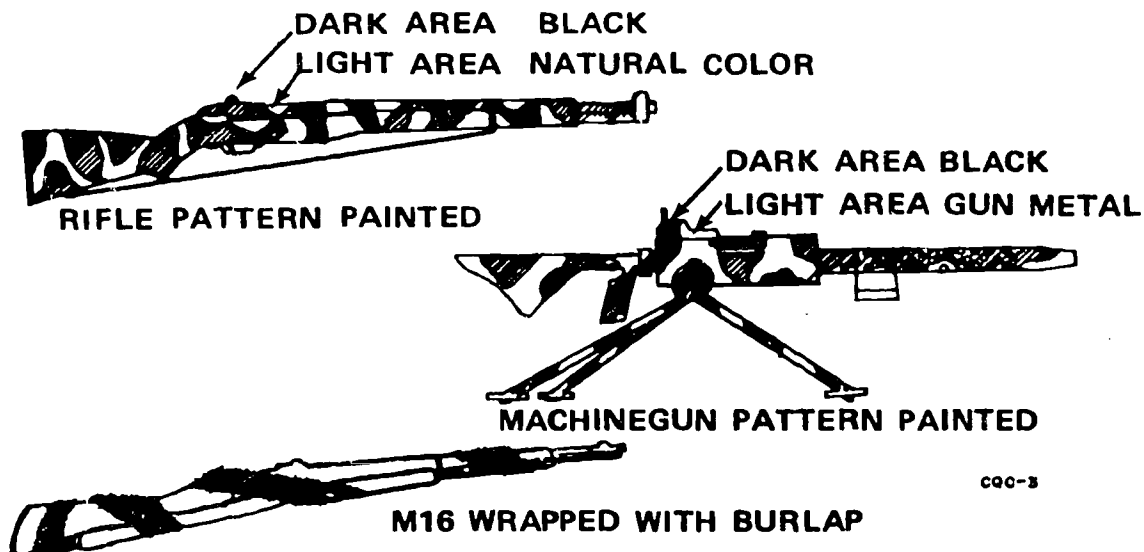

Figure 3-6. Weapon camouflage.
**Weapon camouflage.** Your individual weapon must be concealed to complete the camouflage of a position. Weapon outline and shiny surfaces are the two factors involved in concealment of the weapon by camouflage. An M-16 rifle, shotgun, machinegun, and recoilless and antitank weapons have distinctive outlines that are easily identifiable. Concealment of the weapon by digging it in to present a low silhouette and by using nets and natural cover are excellent methods. However, the tactical situation does not always permit sufficient time for these methods. One of the simplest ways to distort the outline of the weapon is to wrap it with standard burlap garnishing or strips of cloth (see fig. 3-6) dyed to match the surrounding terrain. Foliage placed on various parts of the weapon is another field expedient; however, this is difficult to maintain when the weapon is operational.
**Painting.** Pattern painting of a weapon (fig. 3-6), using colors that blend with terrain features, is another excellent method of camouflage used to distort the outline of the weapon. Any type of camouflage used must not interfere with the tactical effectiveness of the weapon.